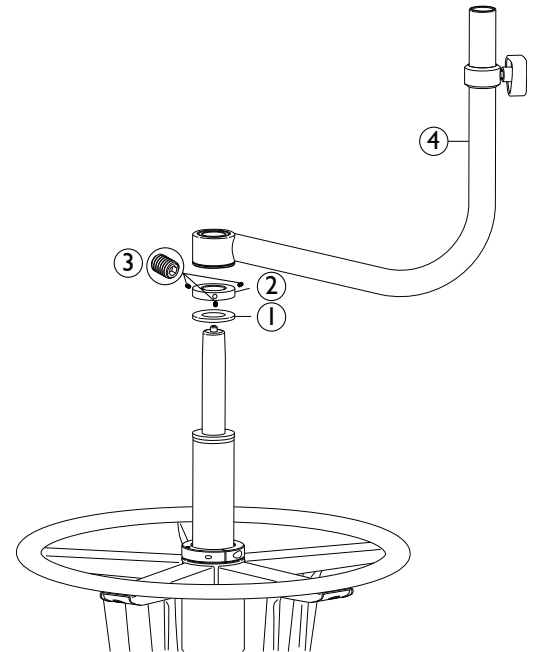

Figure 8: Assembling Support Pole - SA5550 and SA555 I
- Put the Rubber Washer (Figure 8, item 1) on first and fully seat against the shelf of the Gas Cylinder as shown.
- Place the Lock Ring (Figure 8, item 2) on top of the Rubber Washer. Then, using the provided 7/64" hex key, tighten down the 3x Set Screws (Figure 8, item 3) to lock the Lock Ring in place.
- Install the Support Pole (Figure 8, item 4) onto the top of the Lock Ring.